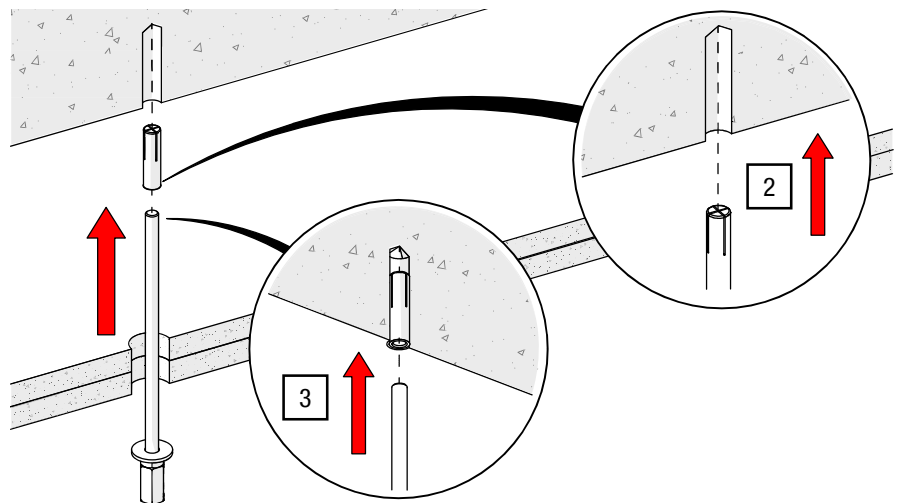

Fig. 37: Ceiling suspension – mount drive-in anchor and threaded rod
2. Mount the M6×30 drive-in anchor in the concrete ceiling according to the manufacturer's specifications (see Fig. 37).
3. Pre-assemble the threaded rod with nut, lock nut, coupling nut, and washer and screw them into the drive-in anchor using an open-end wrench AF 10 and 3 Nm (see Fig. 37; for screw-in depth in coupling nut, see *Chapter 3.4.4 Suspension with spacer tube (OFFICE) – tube and threaded rod* [► p. 26]).